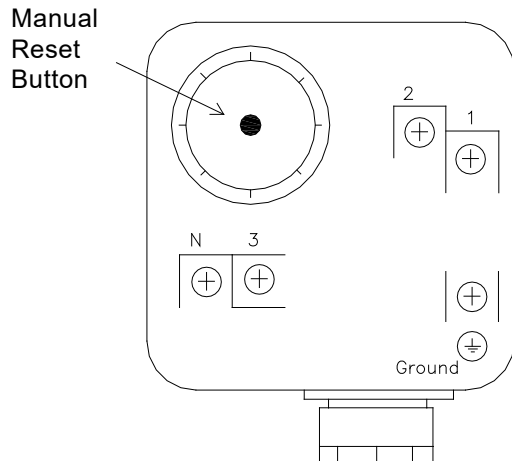

Figure 29: High/Low Gas Pressure Switch
10. If the high or low gas pressure switch tripped, it must be manually reset before the appliance can be restarted. (See Figure 29)